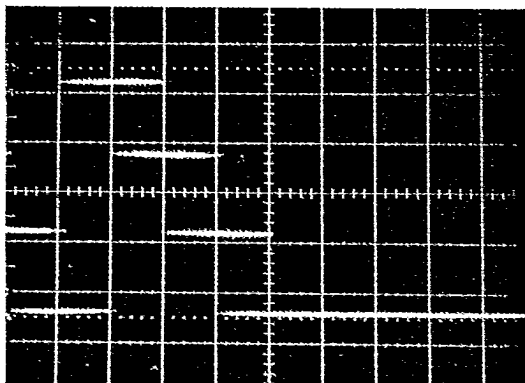

Figure 1. Negative Voltage Display
4. Apply a precision voltage reference set to -5V dc to the analog input (pin 33). Observe the crossplot as shown in Figure 1. The last step should be centered on the vertical grid line one cm to the left of center. Adjust the offset potentiometer as necessary to achieve this positioning.